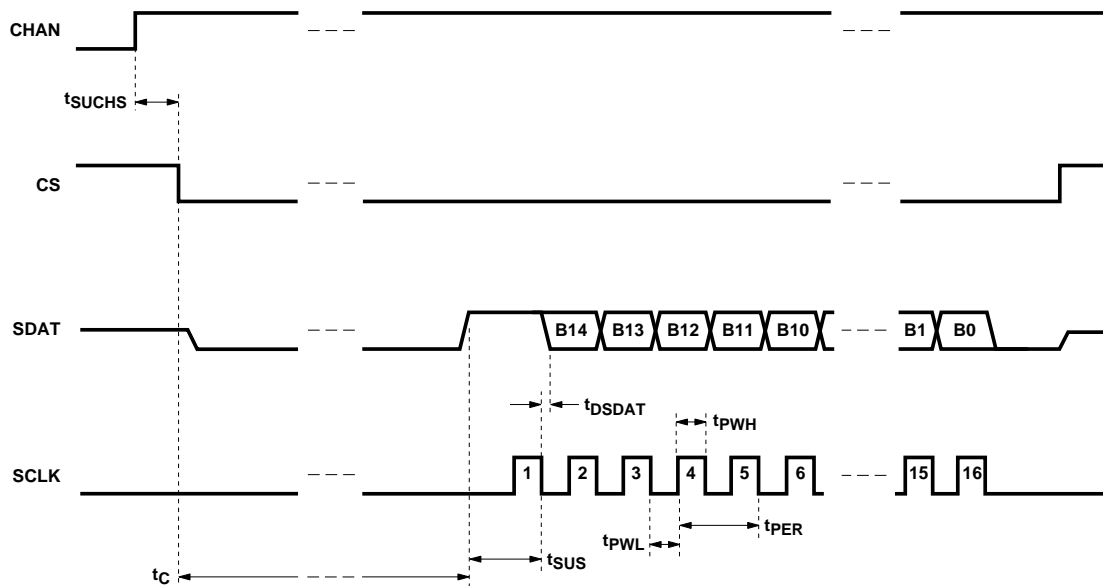

Figure 19. Conversion Timing.
Figure 19 illustrates the timing for one complete conversion cycle. A conversion cycle is initiated on the falling edge of the convert start signal (CS); CS should be held low during the entire conversion cycle. When CS is brought low, the serial output data line (SDAT) changes from a high-impedance to the low state, indicating that the converter is busy. A rising edge on SDAT indicates that data is ready to be clocked out. The output data is clocked out on the negative edges of the serial clock pulses (SCLK), MSB first. A total of 16 pulses is needed to clock out all of the data. After the last clock pulse, CS should be brought high again, causing SDAT to return to a high-impedance state, completing the conversion cycle. If the external circuit uses the positive edges of SCLK to clock in the data, then a total of sixteen bits is clocked in, the first bit is always high (indicating that data is ready) followed by 15 data bits. If fewer than 16 cycles of SCLK are input before CS is brought high, the conversion cycle will terminate and SDAT will go to the high-